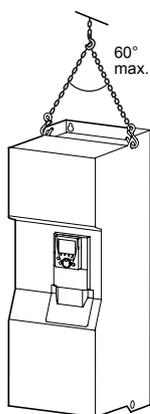

Figure 4
- 3 Remove the screws attaching the drive to the pallet and handle the drive using a hoist. The drive has handling lugs for this purpose (figure 4).